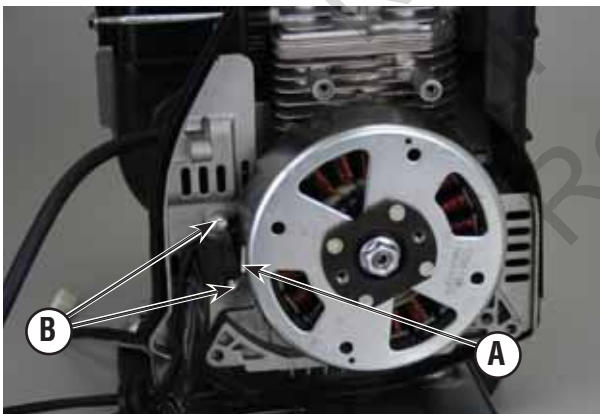

Figure 59
- Using the appropriate feeler gauge, measure the clearance between the trigger coil and the rotor (A, Figure 59).